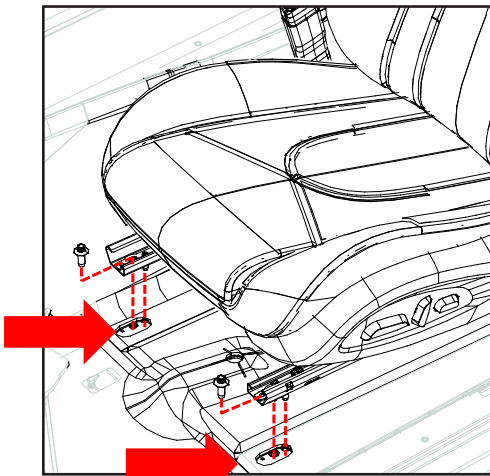

fig. 1a
1) Loosen the front and rear driver seat mounts, install torque  $50\text{Nm} \pm 5.0\text{ Nm}$  (fig. 1a, 1b) apply thread-locker to the bolts (such as Loctite 242 or equivalent fig.1c).